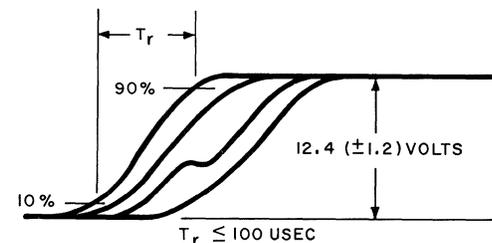

Fig. 56 — Demodulator Card Test
(9) With the controls of the oscillators set as in (8), connect the scope, using the differential mode, to terminals 13 and 14. The output waveform shall be a square wave of approximately 2 cps with amplitude  $12.4 (\pm 1.2)$  volts peak-to-peak.
(10) Increase the frequency of oscillator No. 2 to approximately 2700 cps. With the EXT SYNC TRIGGER SLOPE set to the positive (+) position, expand the TIME/CM selector until an overlay of positive transitions is displayed on the scope as shown in Fig. 56. The rise time of the first transition shall be as specified in Fig. 56.